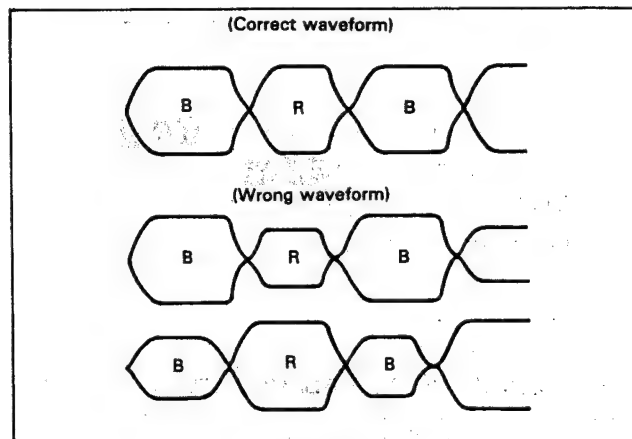

Fig. 16
5. Make even the amplitude of B and R of chrominance of colour bar by L608 (Bell Filter) as shown in Fig. 16.